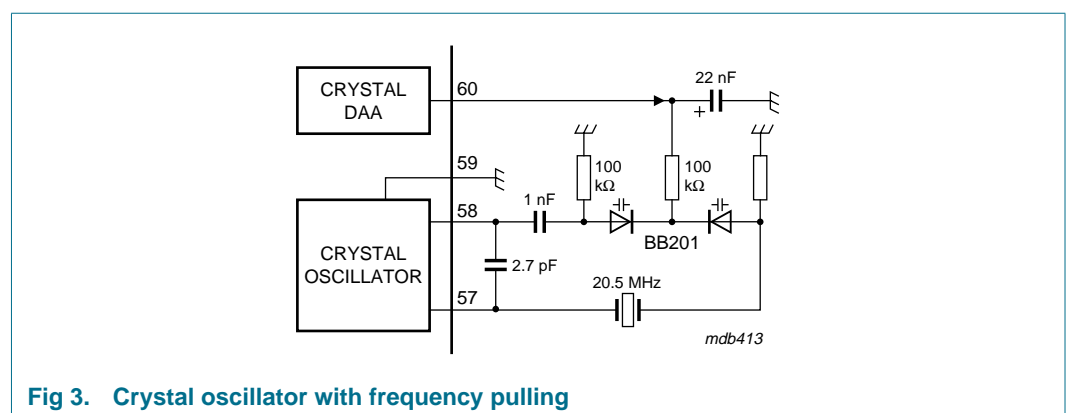

Fig 3. Crystal oscillator with frequency pulling
- 5-bit DAC for adjustment of the crystal oscillator frequency to align the actual IF frequency to the center frequency of IF selectivity inside the IF DSP. If the IF DSP can be aligned to the actual IF frequency, this DAA output can be used as general purpose DAC. Figure 3 shows the application of the crystal oscillator with frequency pulling.